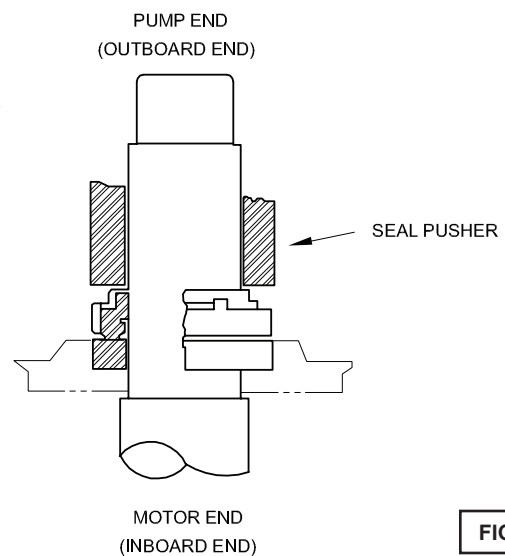
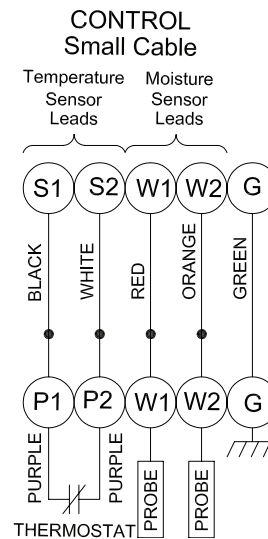

FIGURE 5
FIGURE 8
Seal - Clean and oil seal cavities in bearing bracket (21) and seal plate (25). Lightly oil (**DO NOT use grease**) outer surface of inboard stationary member (46E) and outboard stationary member (46A). Press inboard stationary member (46E) firmly into bearing bracket (21) and outboard stationary (46A) into seal plate (25), using a seal pusher (see parts list-seal tool kit), nothing but the seal pusher is to come in contact with seal face (See Figures 5 & 6).
Check power cable (10A) and control cable (10D) (if used), on conduit box (10), for cracks or damage and replace complete conduit box assembly (10) if required (see Fig. 5). Bring motor wires through wire opening in top of housing (2), check sleeving (53) and replace if required, position square ring (11) in conduit housing (10) and reconnect motor leads to power cable and moisture and temperature sensor leads to control cable (if equipped) using connectors (12), (17) and insulators (54) as show in Figure 8.